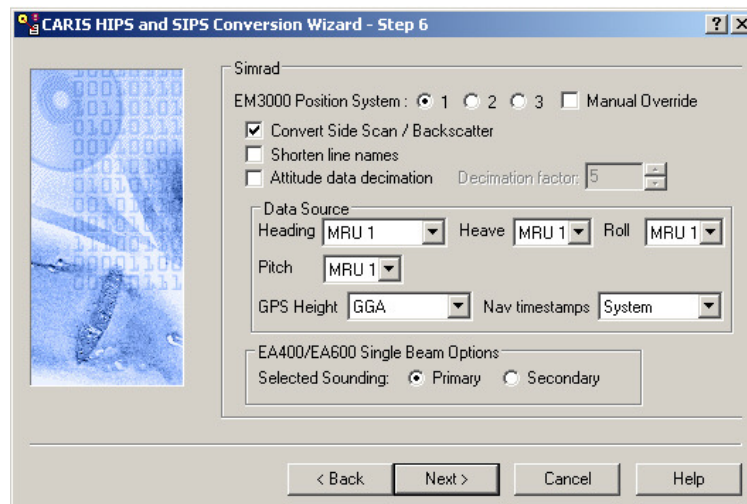

Figure 17: Step 6 of the Conversion Wizard
6. Start conversion by clicking **Next** (Figure 17)